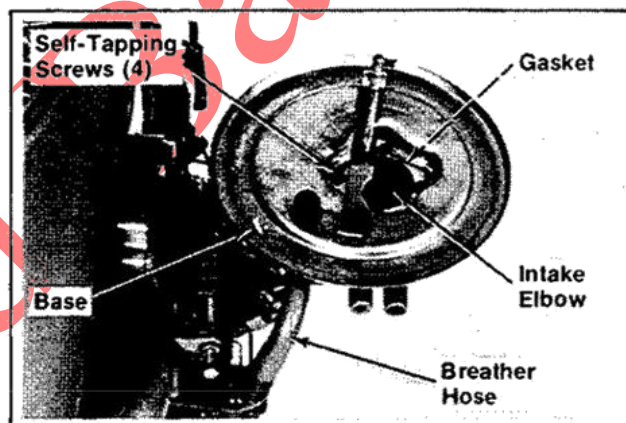

Figure 11-56. Installing Air Cleaner Base.
1. Install the gasket, air cleaner base, breather hose, and self-tapping screws. Refer to Figure 11-56.